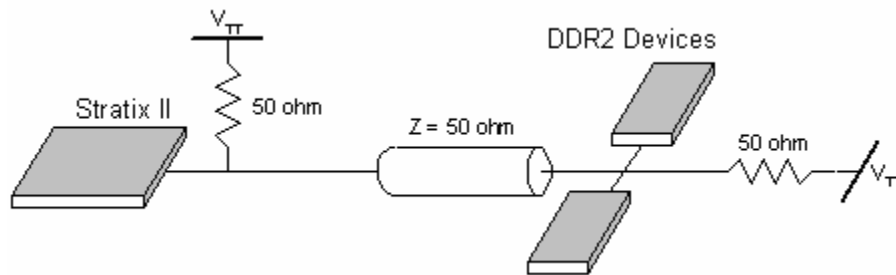

Figure 4-1
11. All signals that are double-loaded (one connection to Stratix II and two connections to DDR2) such as DQ, DQS, DM signals should be routed in a Y-shaped connection with the memory-side termination resistor. The general idea is shown in Figure 4-1